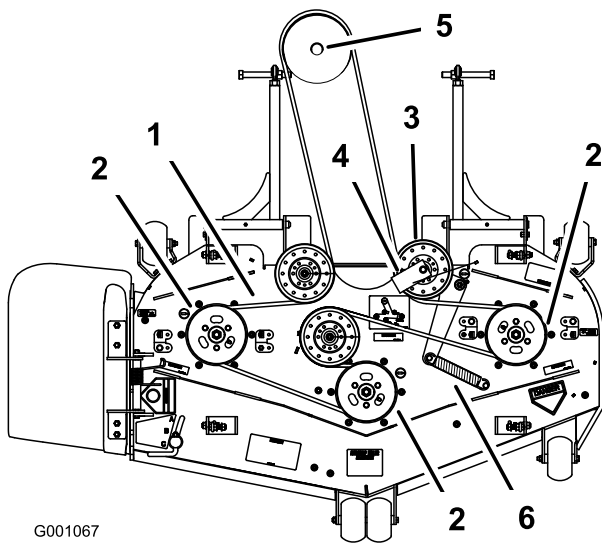
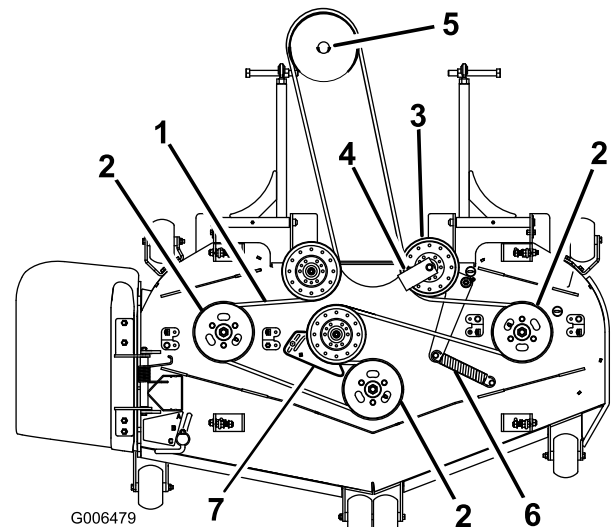
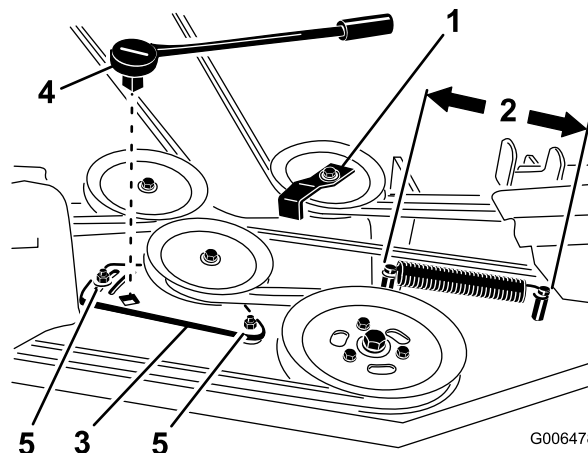

Figure 58
Figure 60
Figure 62
6. Install the new belt around the mower pulleys and the gearbox pulley under the engine (Figure 58).
7. Install spring to the idler arm (Figure 58).
8. Install the belt guide on the spring loaded idler at a 45 degree angle as shown in Figure 58.
4. Loosen the idler plate bolts holding the idler plate (Figure 62).
6. Remove the belt guide on the spring loaded idler pulley shown in Figure 60 and Figure 62.
8. Install the new belt around the mower pulleys and the gearbox pulley under the engine (Figure 60).
9. Install the belt guide on the spring loaded idler at a 45 degree angle as shown in Figure 58 and Figure 62. Torque the bolt to 27 to 33 ft-lb (37 to 45 N-m).
10. Install the idler spring to the two posts (Figure 58 and Figure 62).
4. Measure the spring length (Figure 62). If the spring length is between 10 and 10-1/4 inches (25.4 and 26.0 cm), from post to post, no adjustment is needed.
5. Loosen the bolts holding the idler plate (Figure 62).
6. Insert a ratchet or breaker bar into the square hole in the idler plate to adjust the tension (Figure 62).
7. Rotate the ratchet or breaker bar to move the idler plate until the idler spring is between 10 and 10-1/4 inches (25.4 and 26.0 cm) from post to post as shown in Figure 62.
8. While holding the belt tension and spring length, tighten the idler plate bolts that secure the idler plate (Figure 62).